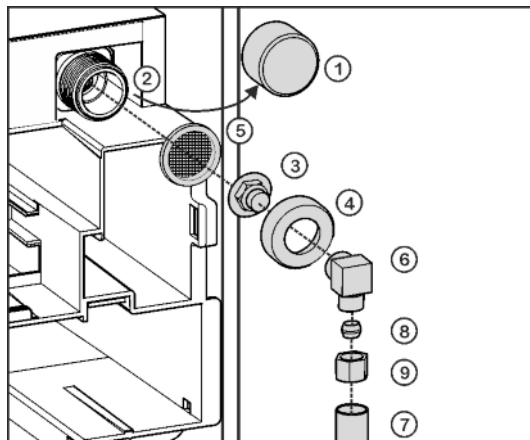

Fig. 25
- ▶ Remove the cap *Fig. 25 (1)* from the solenoid valve *Fig. 25 (2)*.
- ▶ Insert the coupler *Fig. 25 (3)* in the union nut *Fig. 25 (4)*.
- ▶ Insert the water filter *Fig. 25 (5)* with the recess pointing down towards the coupler *Fig. 25 (3)*.
- ▶ Lock the union nut *Fig. 25 (4)* onto the solenoid valve *Fig. 25 (2)* and tighten.
- ▶ To turn the water connection 90°, tighten the elbow connector *Fig. 25 (6)* if necessary.
- ▶ Connect the water supply *Fig. 25 (7)* (e.g. copper) with the aid of the clamp ring *Fig. 25 (8)* and nut *Fig. 25 (9)* to the coupler *Fig. 25 (3)* or elbow connector *Fig. 25 (6)*.